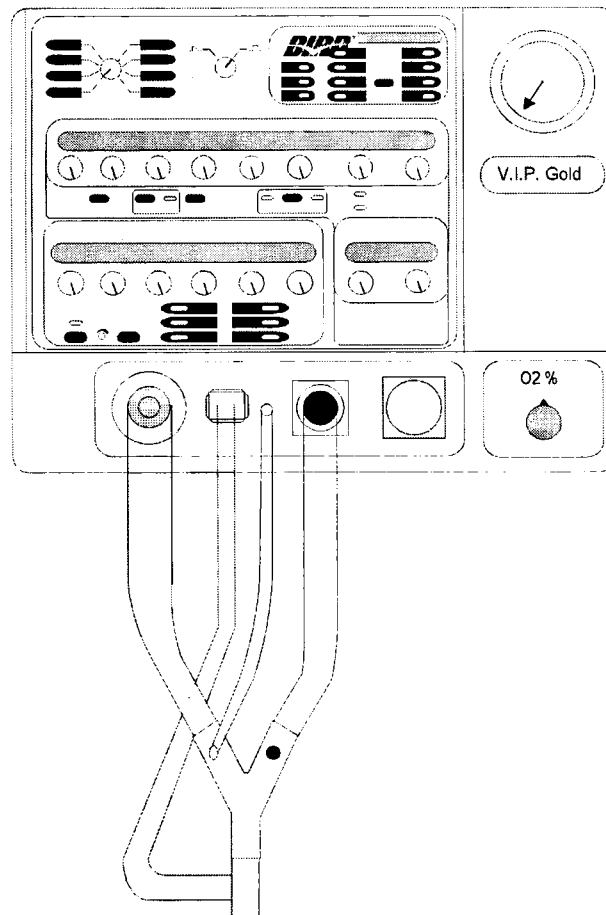

Figure 2.2
1. Connect P/N 10383 test circuit to the VIP ventilator as shown in Test Figure 2.2. **Do not attach the test lung to the circuit.**
1. Turn the ON/OFF switch to the OFF position. Wait 5 seconds and then turn the VIP ON again. Connect the P/N 10383 with test lung, to the ventilator as shown in Figure 2.2